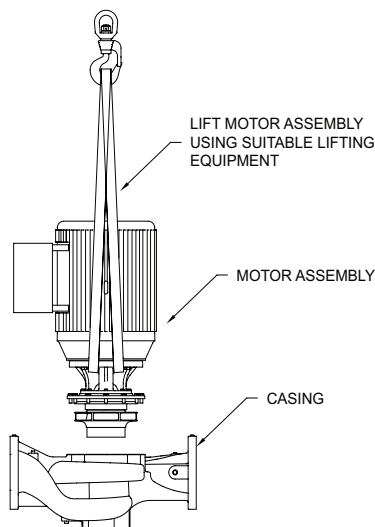

Figure 11
6. Lift the motor assembly straight up (see Figure 11 shown below) from the casing.